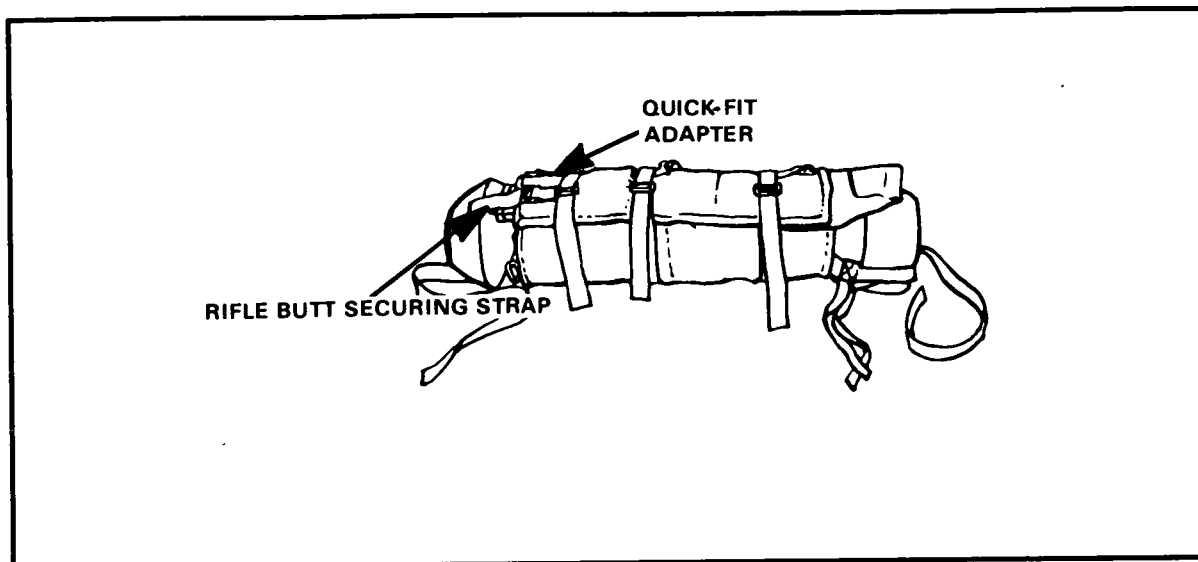

Figure 6-35. Pack closed.
(3) Route the rifle butt securing strap through the quick-fit adapter. Tighten the strap as much as possible, using a quick-release fold (Figure 6-35).